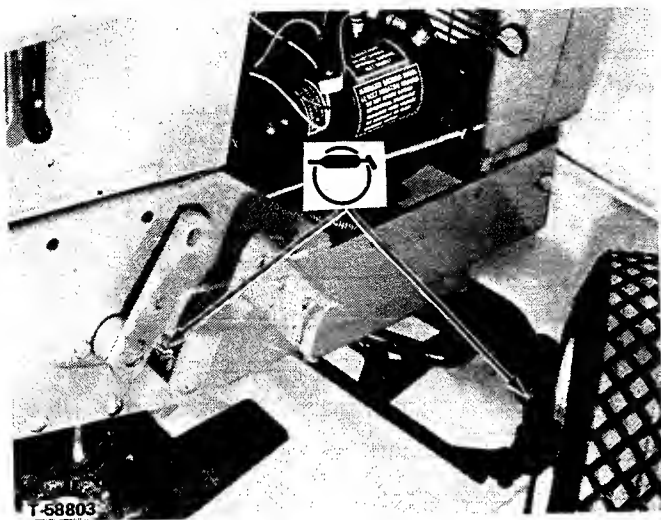

FIGURE 4 - Grease Fittings
- a. Two fittings on front axle (right hand shown) (Figure 4).
- b. One fitting on clutch-brake pedal (Figure 4);